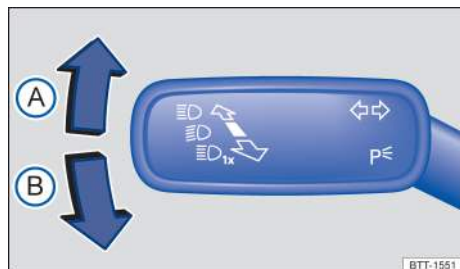

Fig. 76 To the left of the steering wheel: Turn signal and high beam lever.
- Move the turn signal and high beam lever → fig. 76 to position:
- (A) Right turn signal ↗.
- (B) Left turn signal ↘.